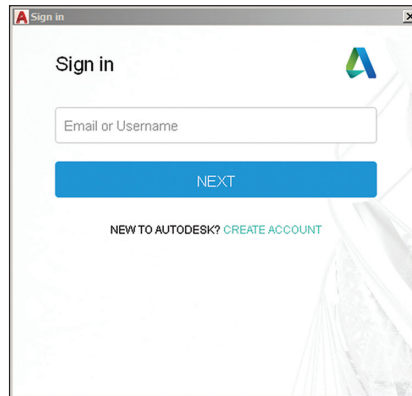

FIGURE 1.2 Signing in or creating an Autodesk ID
2. Sign in with an Autodesk ID or email address and password. If you don't already have an Autodesk ID, click the Create Account link and create one online (see Figure 1.2).